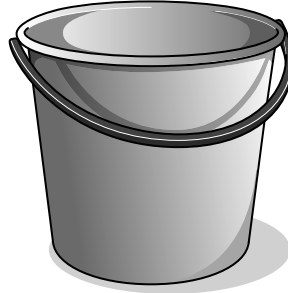

Fig. 1
- 1 Fig. 1 shows a plastic bucket.